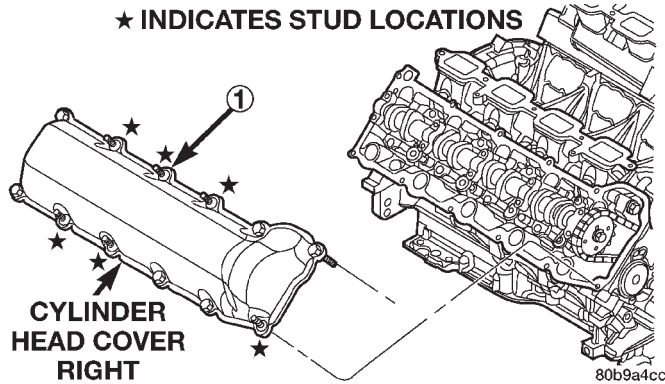

Fig. 40 Cylinder Head Cover—Right
- (1) Clean cylinder head cover and both sealing surfaces. Inspect and replace gasket as necessary.
- (2) Install cylinder head cover and hand start all fasteners. Verify that all double ended studs are in the correct location shown in (Fig. 40).